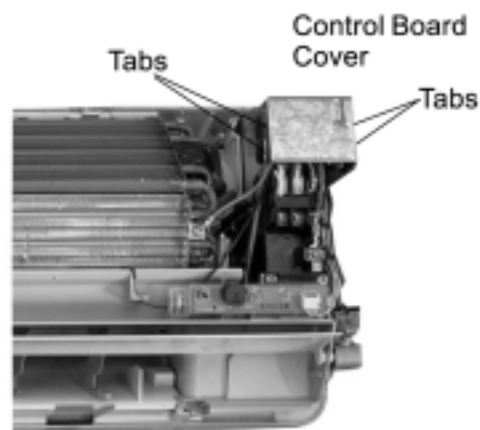

Fig 2
2. Remove the control board cover by releasing the 2 tabs at left and 2 tabs at right side of the control board cover. (Refer to **Fig 2**).